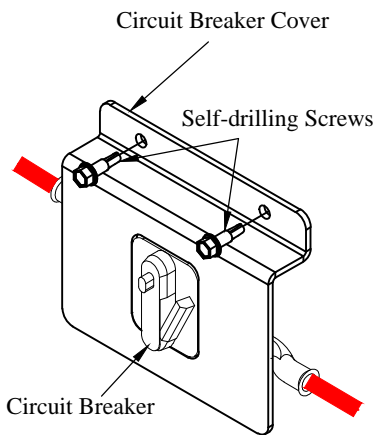

Figure 13: Circuit breaker cover.
14. **Attach** the circuit breaker cover using the supplied self-drilling screws (Figure 13).